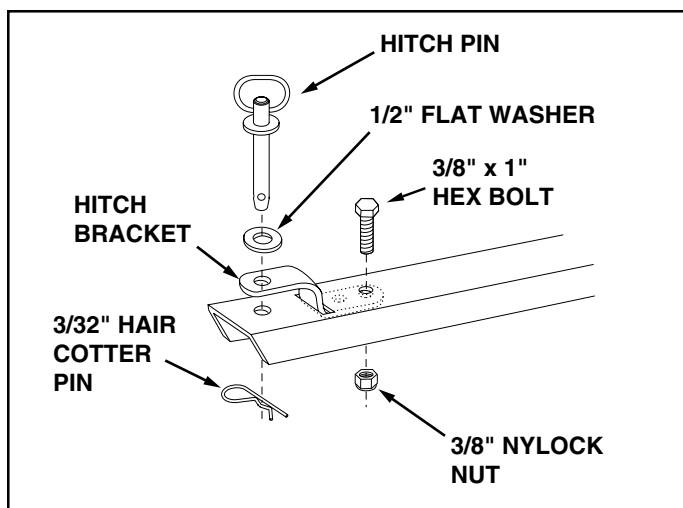

FIGURE 13
22. Assemble the end of the hitch bracket with two holes down through the slot at the front of the drawbar tongue. Fasten it to the tongue using the 3/8" x 1" hex bolt and 3/8" nylock nut. **Tighten.** See figure 13.
23. Assemble the hitch pin and 1/2" flat washer to the tongue and hitch bracket and secure with the 3/32" hair cotter pin. See figure 13.